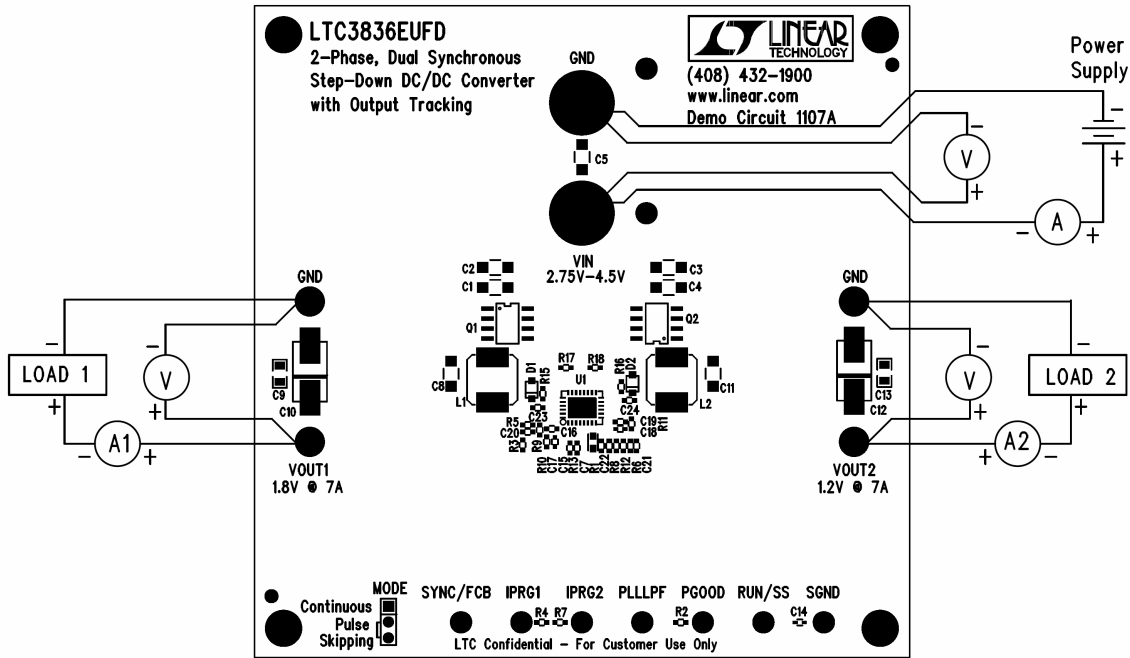

Figure 1. Proper Measurement Equipment Setup
Demonstration circuit 1107 is easy to set up to evaluate the performance of LTC3836EUFD. Refer to Figure 1 for proper measurement equipment setup and follow the procedure below:
2. Connect the 1.8V load (Load 1 in Figure 1) between Vout1 and GND; connect the 1.2V load (Load 2 in Figure 1) between Vout2 and GND. (Initial loads: no load.)